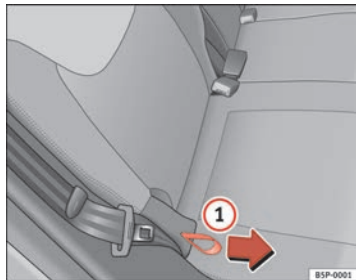

Fig. 99 Rear seat backrest angle adjustment
- Hold the backrest at the top. Pull the loop on the side of the seat ⇒ fig. 99 ① in the direction of the arrow and hold the loop in this position. Push the backrest to the required position and release the loop.